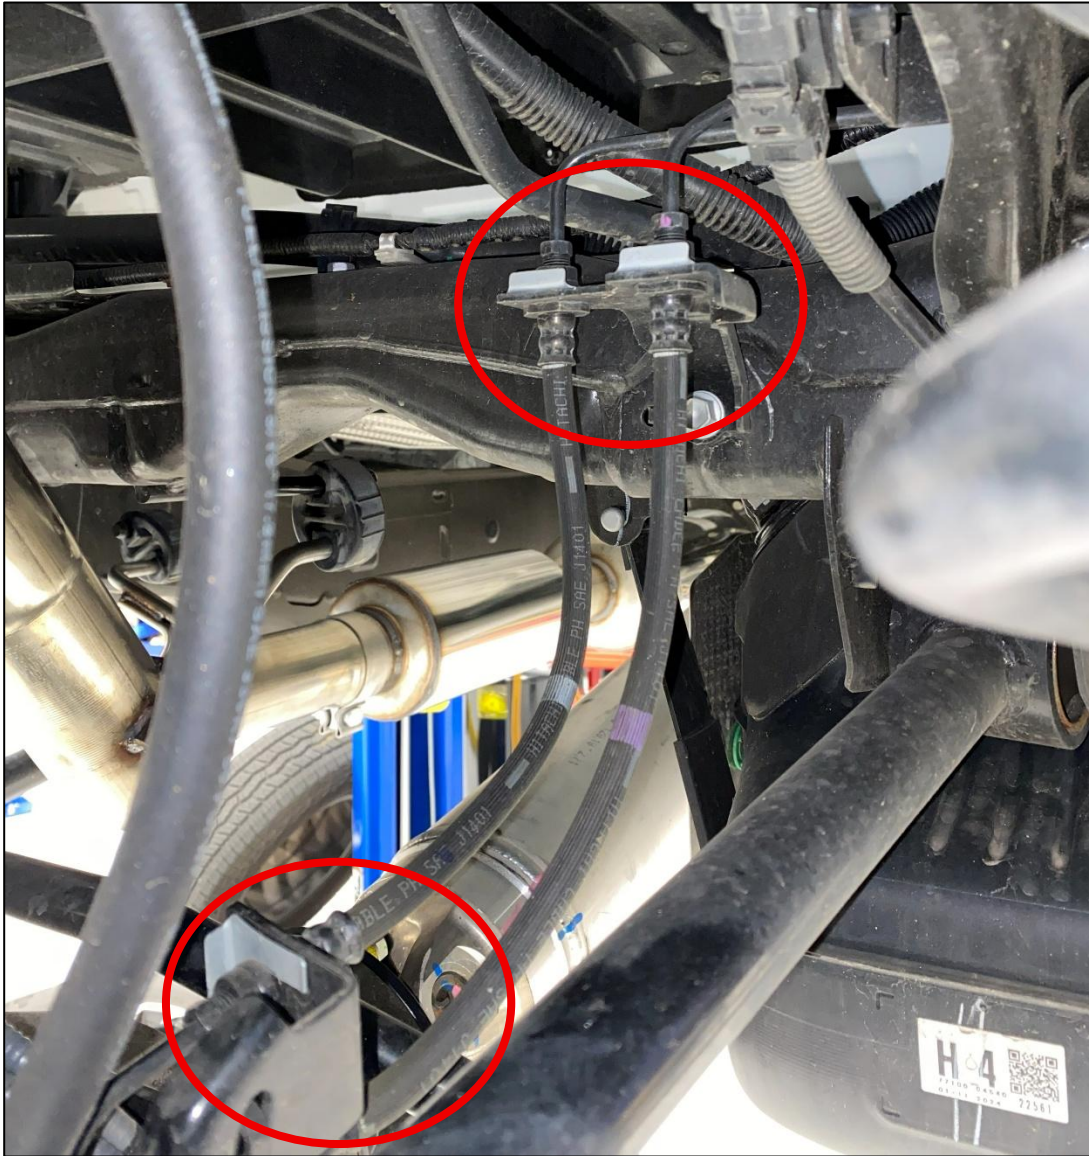

Figure 15
1. Above the Differential, disconnect (1) one of the OE Soft Brake Lines from the Upper Hard Brake Line by loosening the nut on the Hard Line. Brake Fluid will leak out, so prepare a bucket and rags. Clean any spilled Brake Fluid on painted surfaces immediately to prevent damage. *Figure 15.*
2. Disconnect the OE Soft Brake Line from the Lower Hard Brake Line. *Figure 15.*